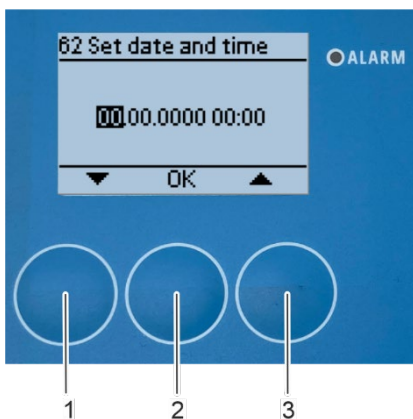

Fig. 109: Set day of month
⇒ The "Set date and time" submenu appears (Fig. 109).
3. Set the day of the month using the arrow keys [up] (Fig. 109/3) and [down] (Fig. 109/1)
4. Confirm the selection with [OK] (Fig. 109/2).